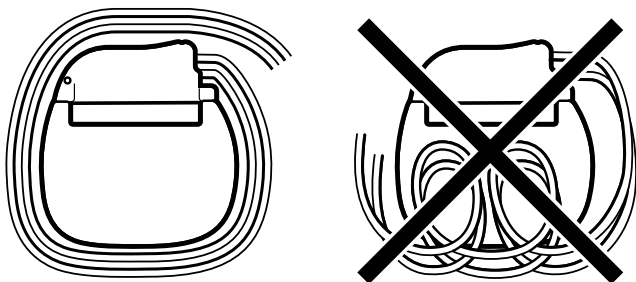

Figure 3. Wrap excess extensions around the perimeter of the neurostimulator.
- Do not coil excess extension in front of the neurostimulator. Wrap excess extension around the perimeter (Figure 3) of the neurostimulator to minimize subcutaneous pocket depth, help minimize potential damage during neurostimulator replacement surgery, help minimize potential kinking of the extension, and minimize interference with telemetry and recharge operation. Excess extension should not exceed two wraps around the perimeter of the neurostimulator. Extension lengths requiring more than two wraps can interfere with telemetry.